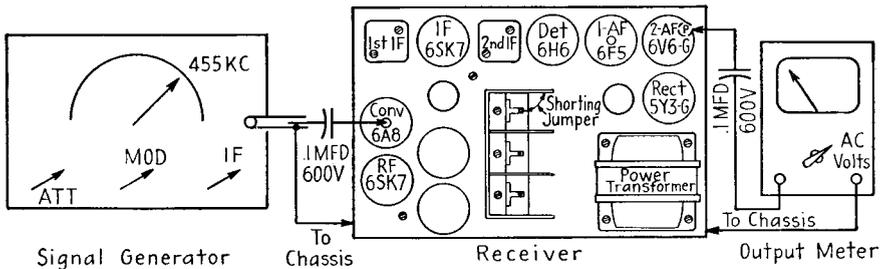

FIG. 23-11. Connections to a receiver for aligning the IF amplifier.
**Aligning the IF amplifier.** The receiver, signal generator, and output meter are hooked up as shown in Fig. 23-11. The output meter is adjusted for a high-voltage AC range, and connected through a 0.1-mfd/600-volt condenser to the plate pin of the second AF tube. The signal generator is adjusted for a modulated output at the intermediate frequency of the receiver. The signal-generator output is connected through a 0.1-mfd/600-volt condenser to the mixer grid of the receiver. The stator terminal of the oscillator condenser is shorted to the condenser frame. The receiver controls are set for maximum gain. Both the receiver and the signal generator are allowed a warm-up period of 15 min.